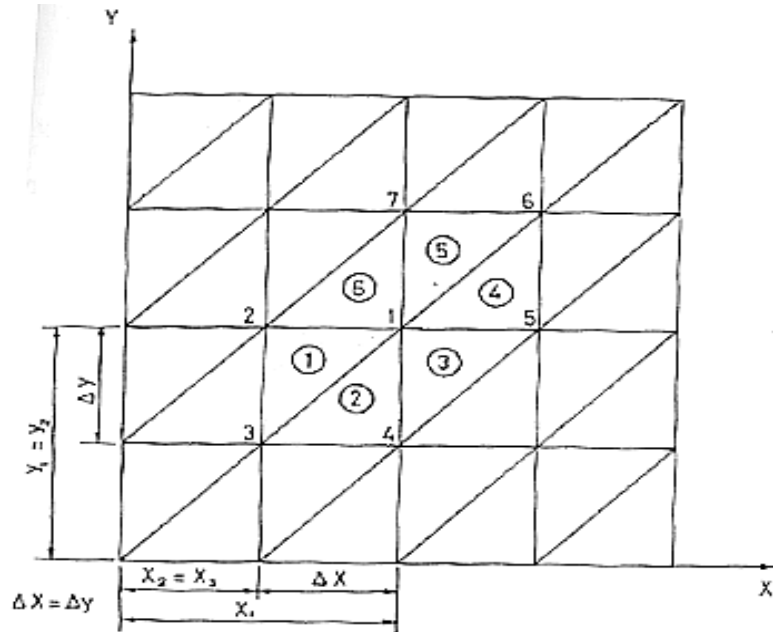

Fig Q.3b. Triangular elements associated with node 1
b) With the help of the diagram in Fig. Q.3b, and if  $F_i$  is the energy for element  $i$  and  $\phi_i$  is the potential at node  $i$ , for example, when  $i=1$ ,  $F_1$  is simplified to